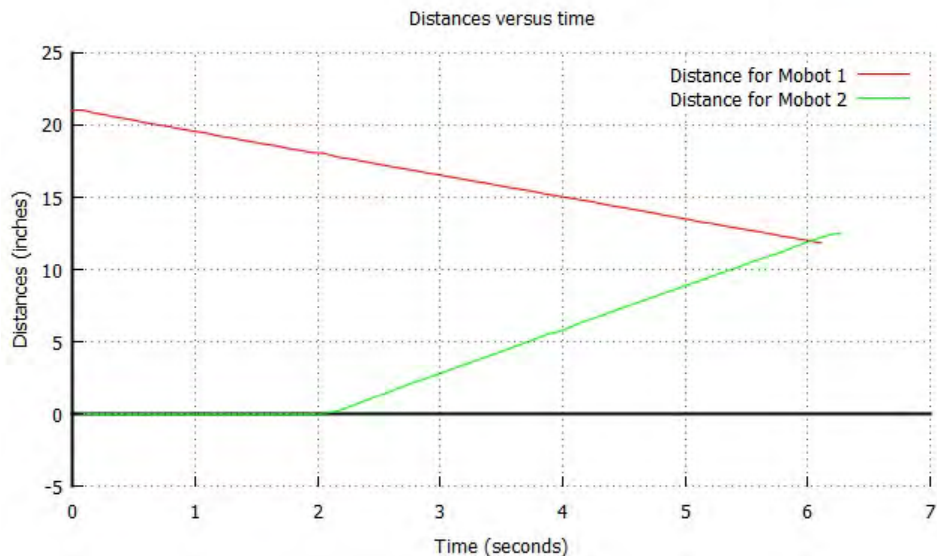

Figure 13.19: Two robots moving in opposite directions.
6. Write a program `recordinterceptdistoffset2.ch` using the member functions **driveDistanceNB()** and **driveDistance()** to reproduce Figure 13.19 shown in Exercise 4.